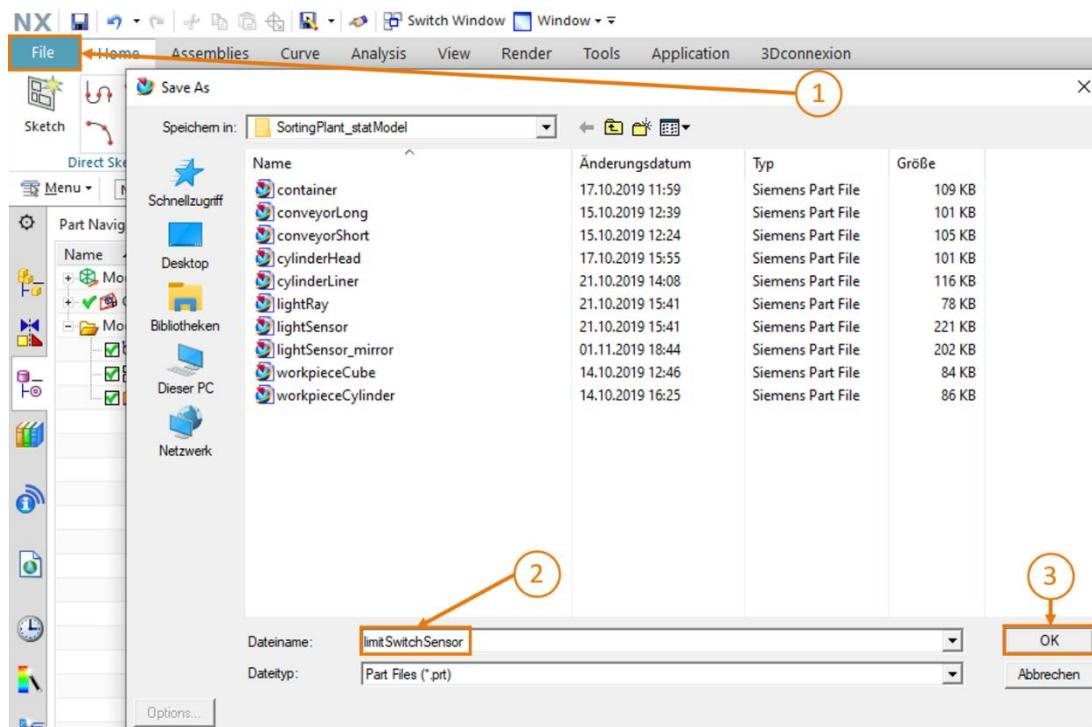

Figure 47: Saving a copy for the limit switches
- Now save the model as a copy for the limit switches. For this, you go to the "File" menu and click on the "**Save As**" button in the "Save" submenu (see Figure 47, step 1). Navigate to your working directory and save the copy under the name "**limitSwitchSensor**" (see Figure 47, step 2). Confirm your settings by clicking the "**OK**" button, as shown in Figure 47, step 3.